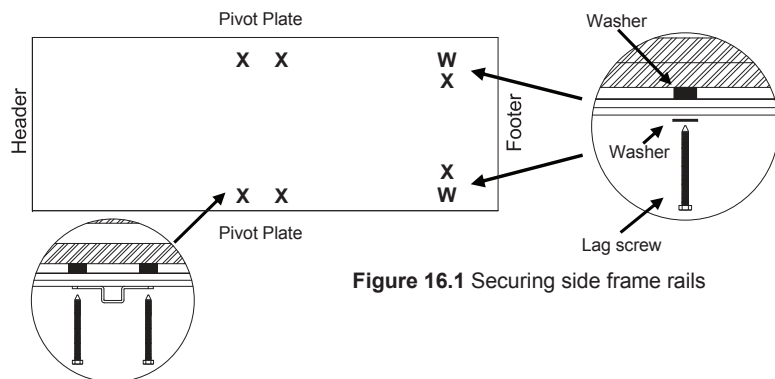

Figure 16.1 Securing side frame rails
S. Installer #1 and #2: Position shims from above and below at the six remaining pre-drilled holes, three in each frame side rail. See Figure 16. Shims should provide uniform support so there is no twisting or bowing of the aluminum frame. Drill 1/8" diameter by 3" deep pilot holes into the ceiling joist through the pre-drilled holes. Install the six lag screws and the two washers (where indicated in Figure 16.1) to secure the attic ladder.